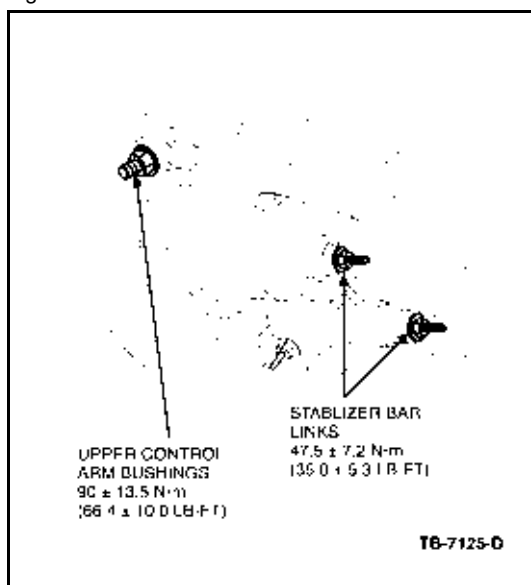

Figure 3 - Article 03-9-5
- Upper control arm bushing bolts (both sides) (Figure 3) - 66.4 ± 10.0 Lb-ft. (90 ± 13.5 N•m)
- Stabilizer bar link bolts (both sides) (Figure 3) - 35.0 ± 5.3 Lb-ft. (47.5 ± 7.2 N•m)